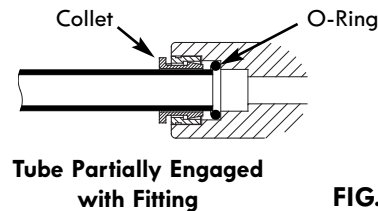

FIG. 3A
1. Push tubing through collet, until it engages the o-ring. See Fig. 3A. Continue pushing until the tube bottoms out against the back of the fitting. See Fig. 3B. Do not stop pushing when the tube engages the o-ring. When a 1/4" tube is fully engaged, 11/16" of the tube has entered the fitting. Mark tube with a piece of tape or marker. See Figs. 3A & 3B.